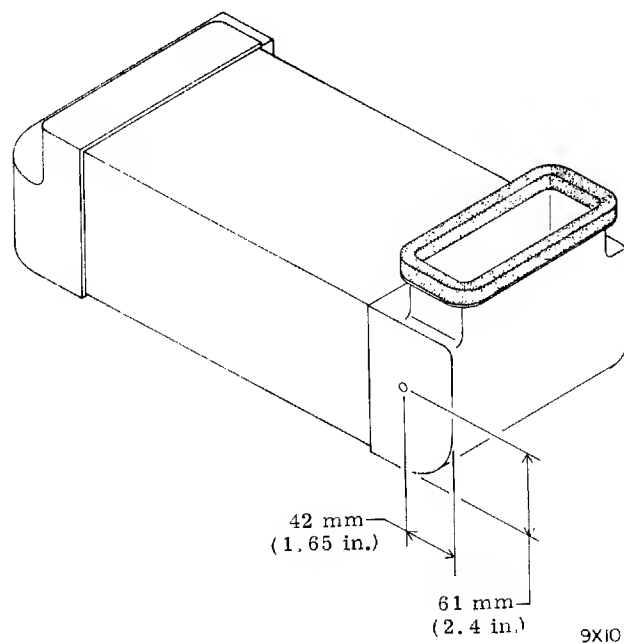

Figure 2-5. Drilling of Absolute Filter
- b. Drill a 6.35 mm 0.25 in hole in the location shown in Figure 2-5.